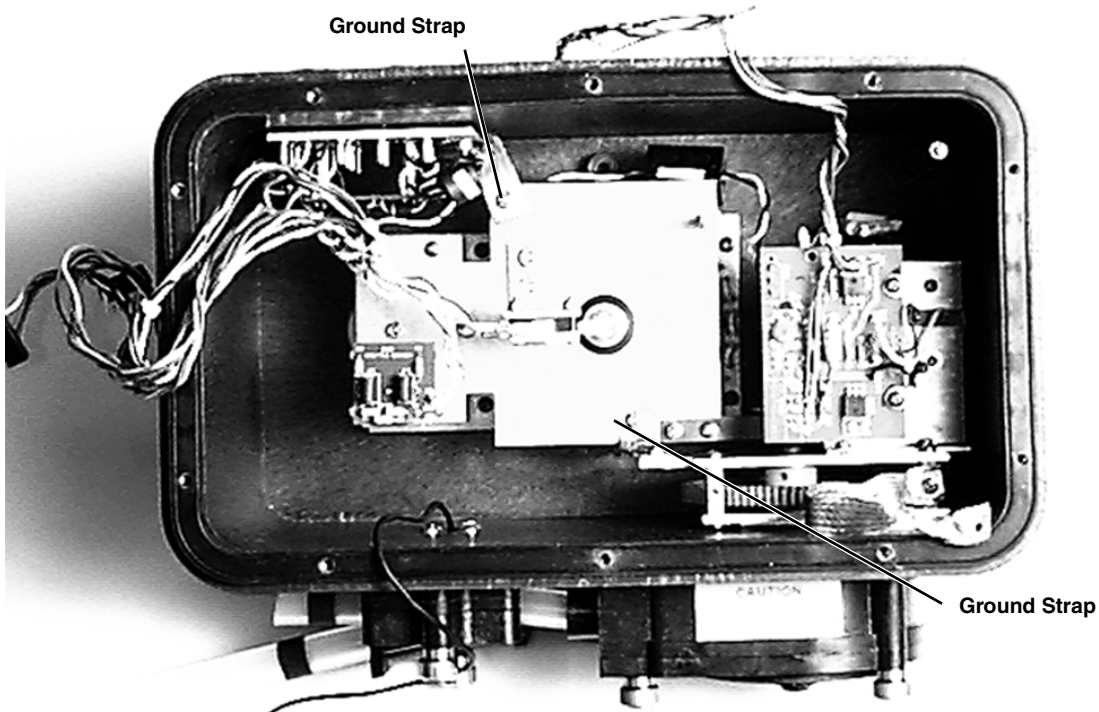

Figure 5-11 Distributor Gear Case Removal
4. The distributor gear case can be removed from the control box by unscrewing the four screws at the base of the distributor, and disconnecting the two grounding straps indicated in Figure 5-11.